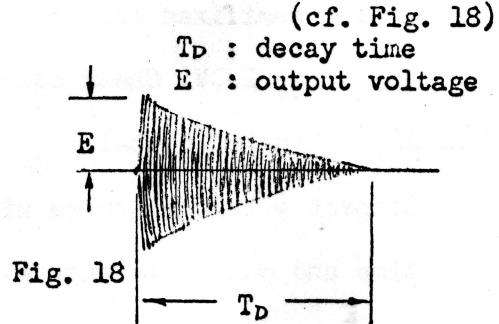

Fig. 18
b) The wave form of output of the Noise section (excluding BD & GU) (cf. Fig. 18)